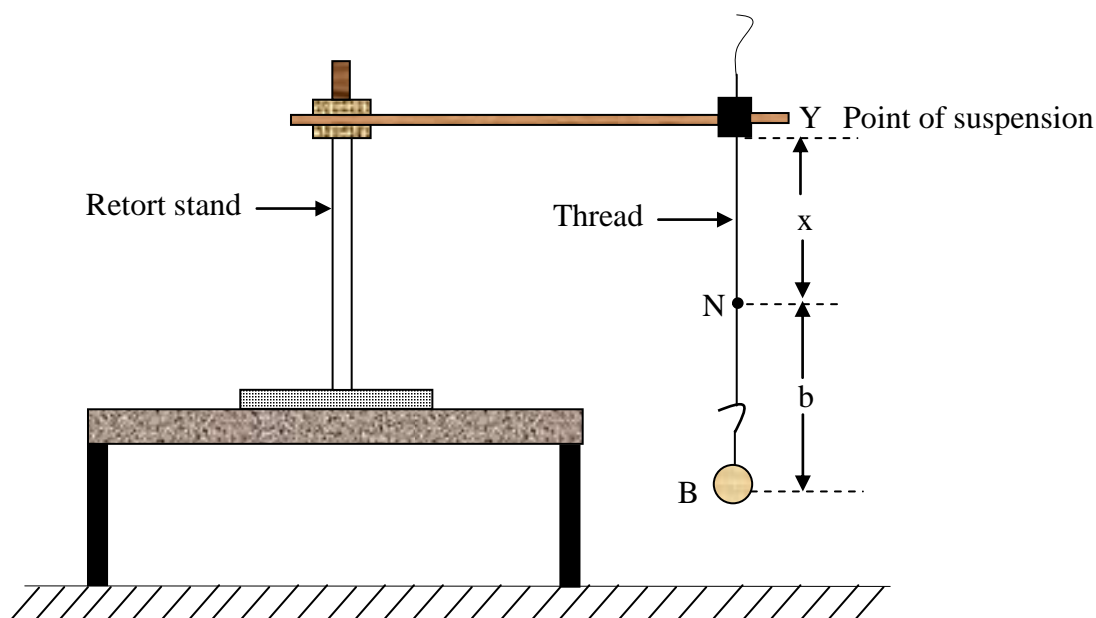

Figure 21
- (a) Tie a thread to the given pendulum bob as shown in Figure 21. Make a knot of 10cm from the bob.